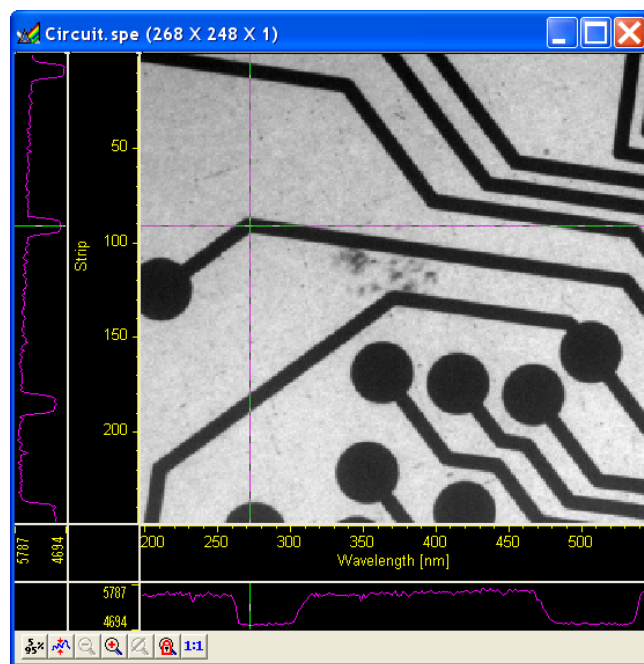

Figure 100. Circuit.spe with Axes and Cross-sections
5. The display should now appear as shown in Figure 100. The axes will be labeled in image pixels and strips with respect to the CCD chip used to acquire the image. The vertical image intensity profile at the cursor position will be displayed to the left and the horizontal image intensity profile at the bottom. The minimum and maximum values for each profile are indicated. Note that you can use the mouse and drag the axes and profile boundaries to change the size of the profile display regions. To change the cursor location, simply click the mouse at the new spot. The cross-sectional graphs will change to reflect the profiles at the new location.